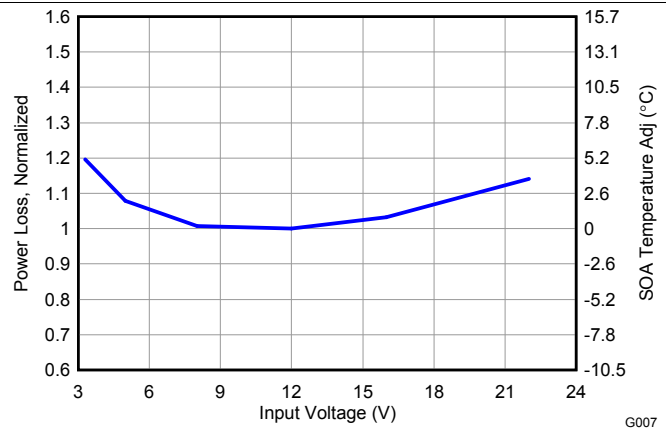

Figure 7. Normalized Power Loss vs Input Voltage
- Normalized Power Loss for input voltage  $\approx 1.0$  (Figure 7)